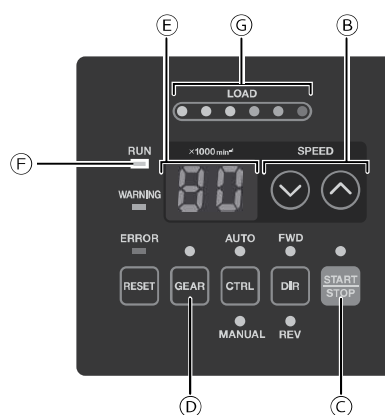

Fig. 23 CONTROLLER Control Panel
- (4) Setting Gear Ratio (Set the Gear Mode Select Button (GEAR) ②⑤ of the Fig. 23 CONTROLLER Control Panel.)
- (6) Motor Start / Stop (Motor Start / Stop by pushing the START / STOP Button (START / STOP) ③ of the Fig. 23 CONTROLLER Control Panel)
- (4) Setting Gear Ratio (Set the Gear Mode Select Button (GEAR) ④ of the Fig. 23 CONTROLLER Control Panel)